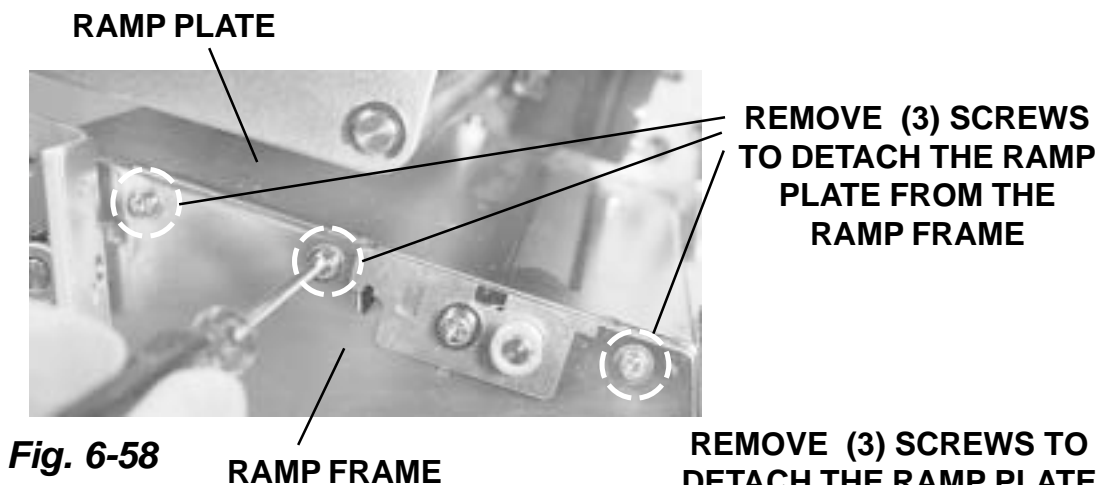

Fig. 6-58
4.	Raise the media hold-down cover and locate the sensors. Fig. 6-57 Remove (3) screws to detach the ramp plate from the ramp frame (mechanical section). Fig. 6-58